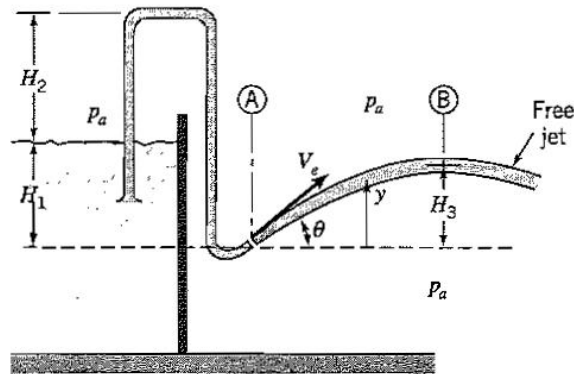

Figure P4.32
4.32 A tube of constant area A_t is used as a siphon, and it draws fluid of constant density ρ without loss from an infinitely large reservoir, as shown in Figure P4.32. The fluid exits